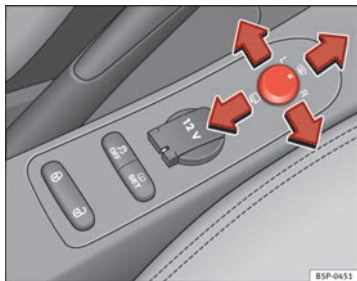

Fig. 90 Controls of exterior mirrors
1. Turn knob ⇒ fig. 90 to position **L (left exterior mirror)**.
- Turn the control ⇒ fig. 90 to position  to fold in the exterior mirrors. You should always fold in the exterior mirrors if you are driving through an automatic car wash. This will help prevent damage.